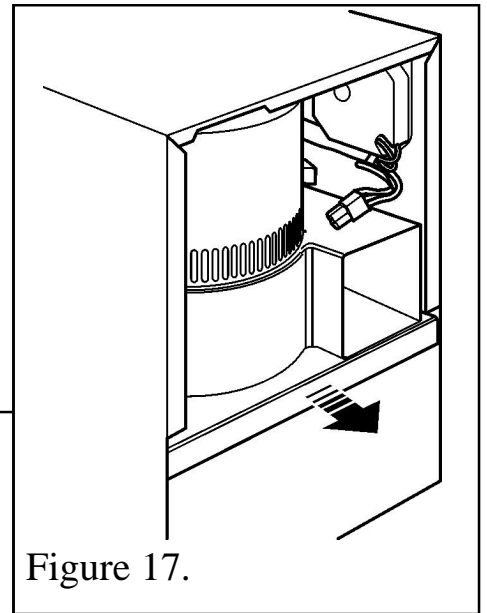

Figure 17.
1. Remove the three cover retaining screws and withdraw the fan unit (See figure 17).